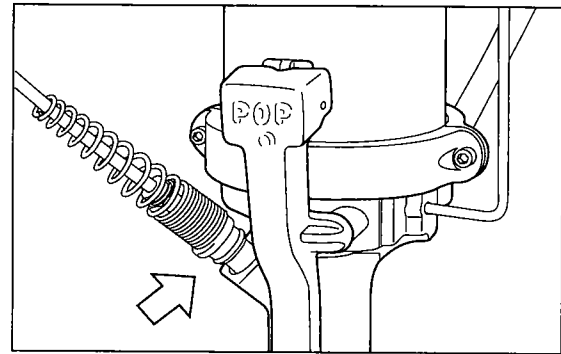

Figure 14
3. Insert the Mandrel Slide Assembly into the tool. (See Figure 14)